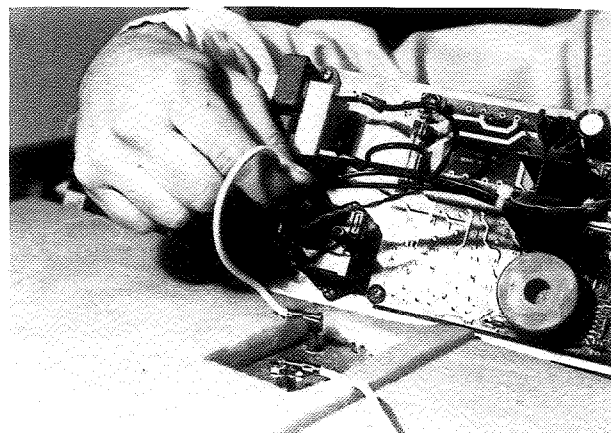

Figure 12
3. Disconnect wires from solid state relay. (See Figure 12)